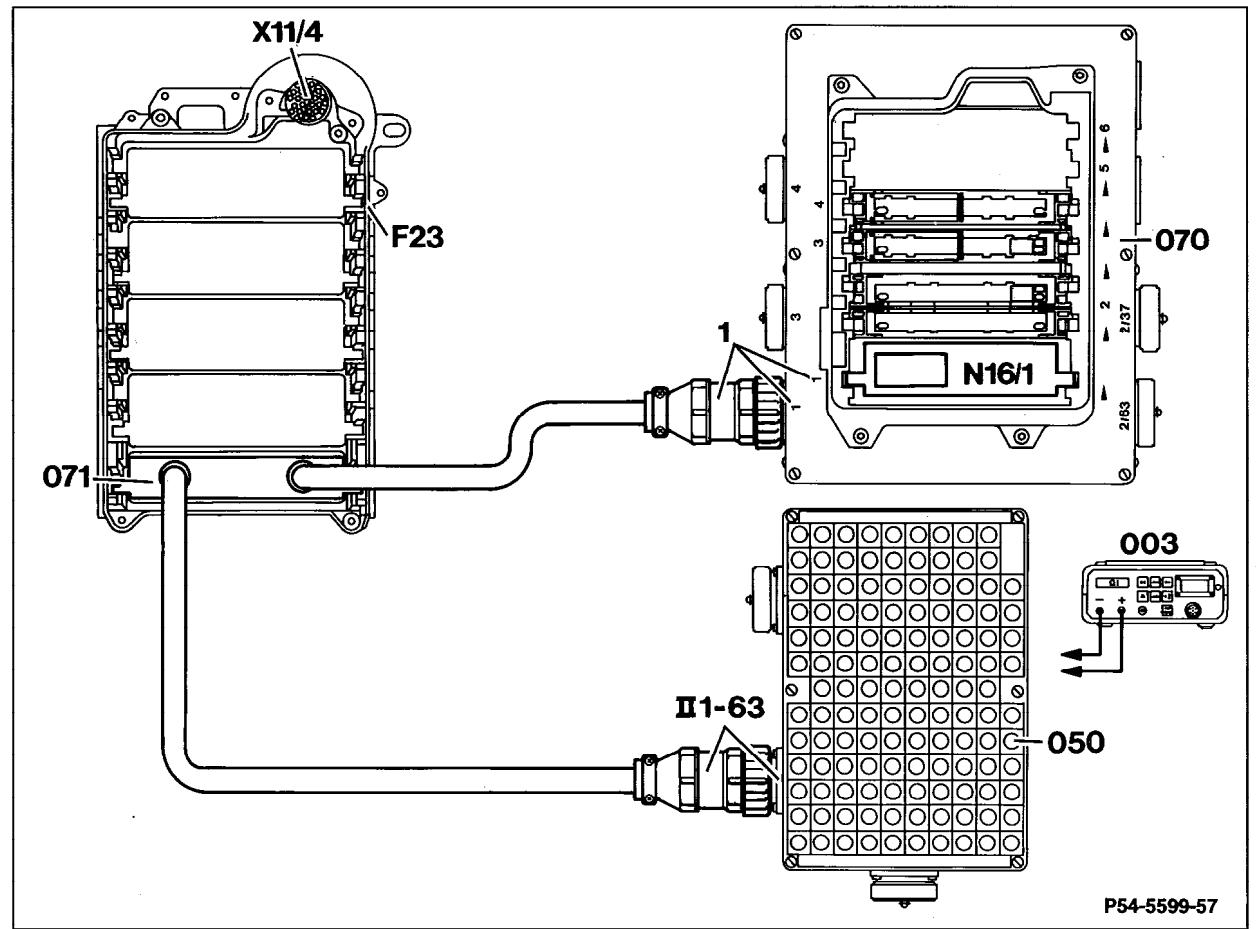

Figure 1
3. Connect socket box with contact module 1 and contact box according to connection diagram (Figure 1 or 2) on following pages.